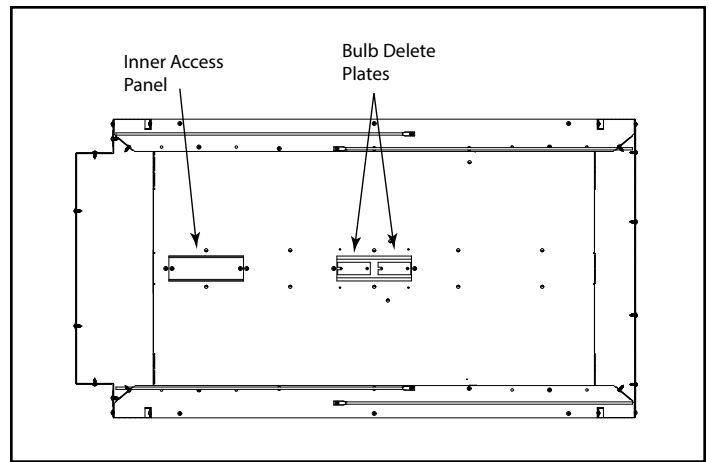

Figure 4 - Inserting Wire Light Socket
5. Remove the two (2) bulb delete plates and the inner top access panel. See Figure 4.
6. Insert wire from light socket through opening from bulb delete and direct toward side with access panel. Use the hole created by the inner top access panel to direct wires over the edge and down the side of the firebox wall. Wires should be visible through the side access panel. Attach with two (2) screws removed from bulb delete plates. Repeat steps for second socket.
15. Attach light cover with four (4) screws (2 each side) from fastener pack directly under bulbs.
16. Reinstall inner top access panel (smaller plate) back in place with two (2) screws previously removed. See Figure 4.